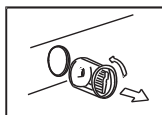

Fig2
- 2)Screw out filter by turning counterclockwise (Fig. 2);